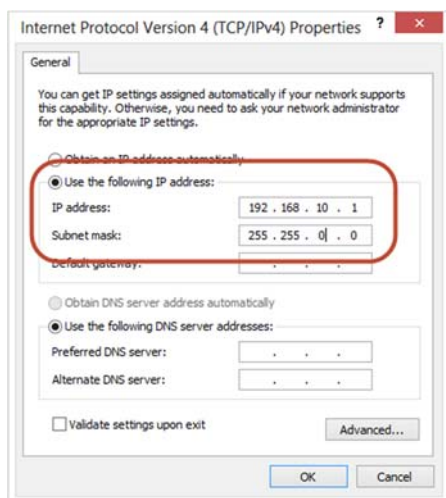

Figure 69
7. In the **Internet Protocol Version 4 (TCP/IPv4) Properties** dialog box, select **Use the following IP address** field and then enter the correct **IP Address** correct **Subnet mask** of **255.255.0.0** (Figure 69).